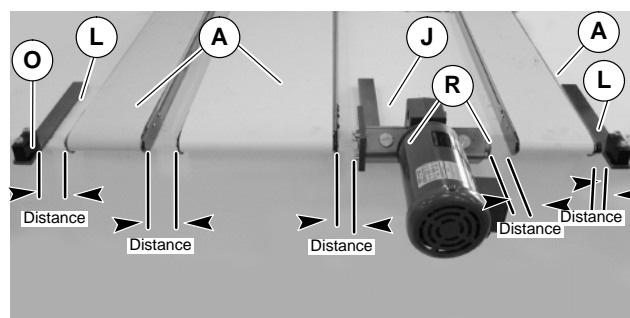
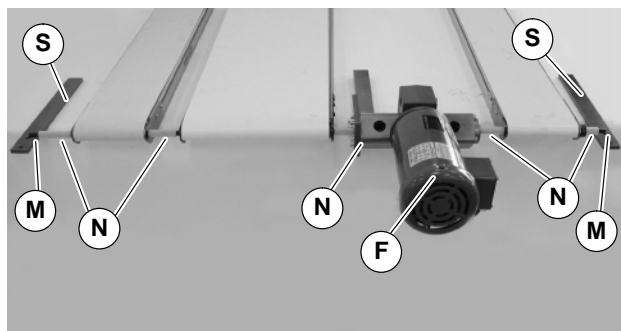

Figure 19
Figure 21
- Align conveyors between gearmotor support assembly (J of Figure 19) and bearing support assembly (L).
**NOTE:** Do not secure the conveyors (A of Figure 19) to the mounting surface.
- Cut shaft cover (N of Figure 21) into pieces to match each distance (Figure 19) minus 1.5mm.
15. Slide hex shafts (M of Figure 21) through conveyors and shaft cover pieces (N) on both sides of gearmotor assembly (F) and into flex couplings.